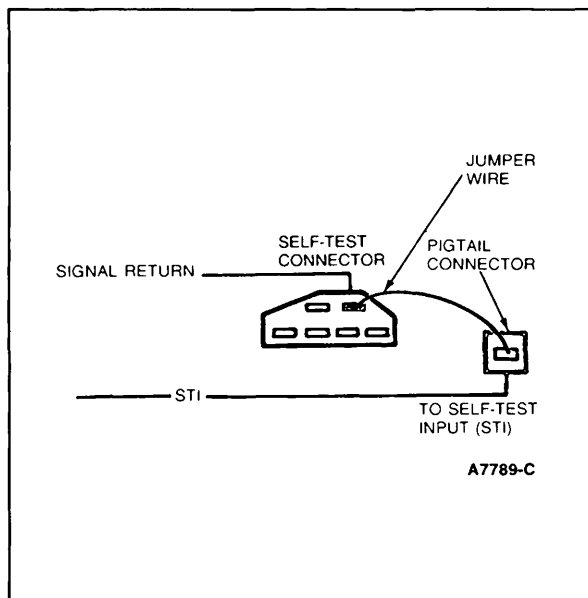

Figure 1 1.9L CFI and 2.5L CFI HSC
1. Engine off, remove air cleaner. Connect jumper wire between self-test input (STI) and signal return pin on the self test connector (Figure 1).